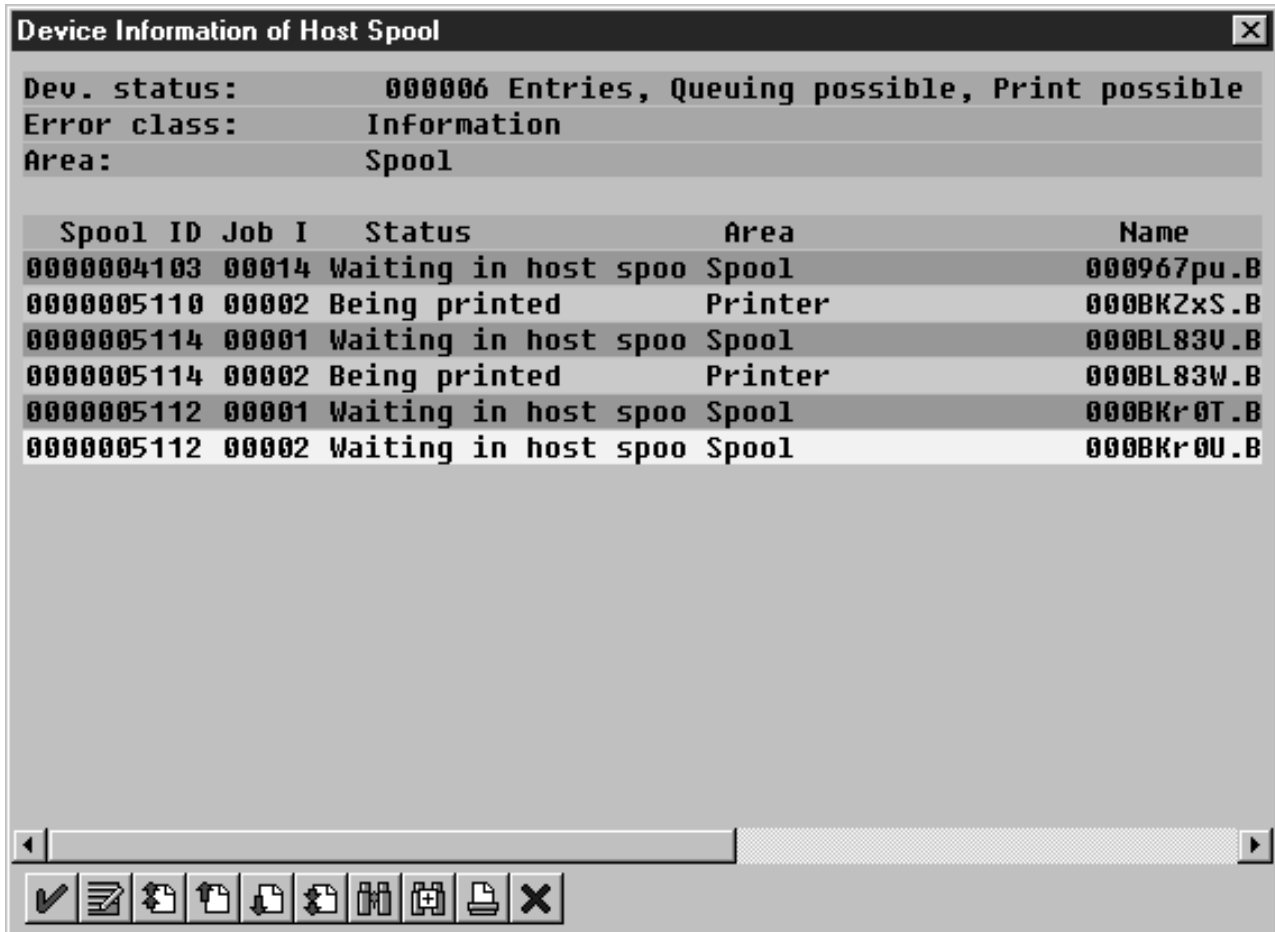
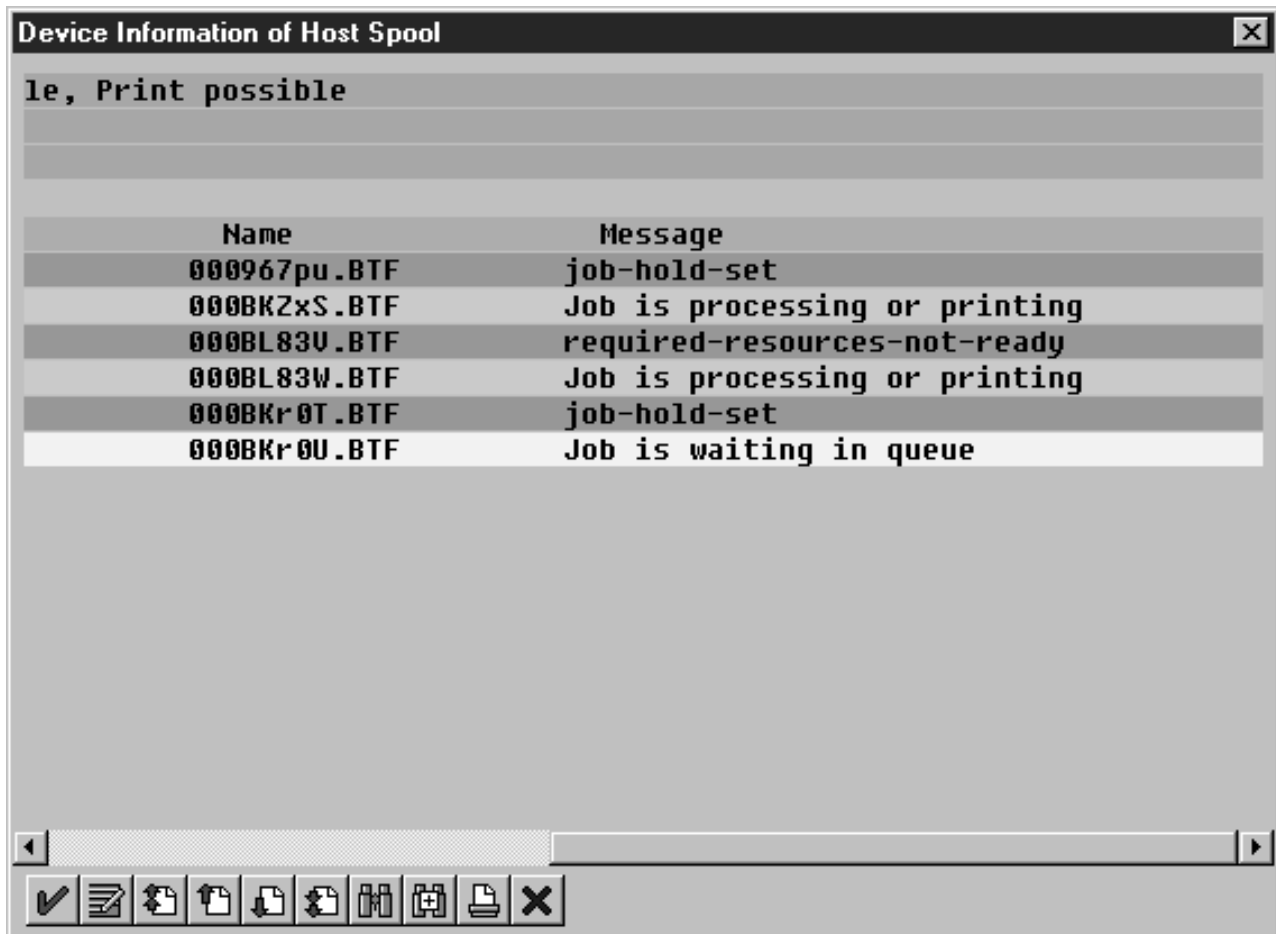

Figure 20. Device Information of Host Spool window: View 1
Figure 21. Device Information of Host Spool window: View 2
The Device Information of Host Spool pop-up window is displayed twice to capture both the right and the left sides. (1) This section indicates that there are six jobs in the InfoPrint Manager queue, two of which are being processed by printers (Figure 20 on page 50). (2) This section shows information about each job, including its current status in InfoPrint Manager (Figure 21 on page 51).